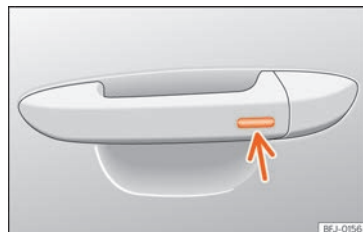

Fig. 88 Door handle: sensor surface.
- Press and hold the locking sensor surface » Fig. 88 (arrow) on the door handle to close the sunroof. If you release the sensor surface, the closing movement stops.
The anti-trap function can reduce the risk of injury when closing the sunroof and the sun blind » Fig. 88. If the sunroof or sun blind encounter resistance or an obstacle when closing, they reopen immediately.